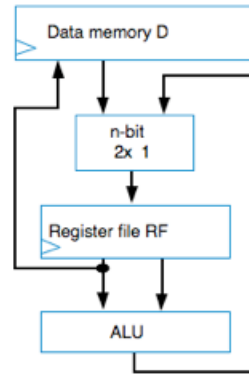

Figure 1: 3-instruction processor datapath.
1. In this question, we're going to work with the initial datapath for the 3-instruction processor (shown below). Let's assume that we want to modify this datapath to add an instruction that performs an ALU operation on any two memory locations and stores the result in a register file location. Add the necessary components to Fig. 1 to make this possible.